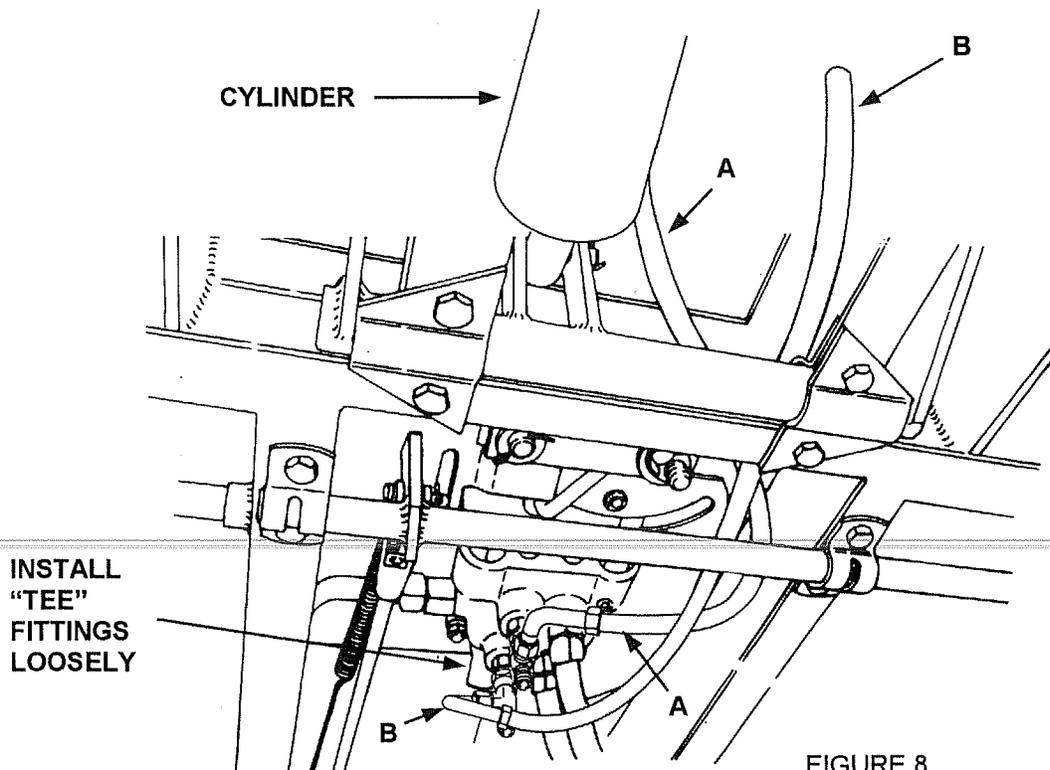

FIGURE 8
10. (See figure 8) Remove 3 PT hitch hoses from bottom of travel valve.